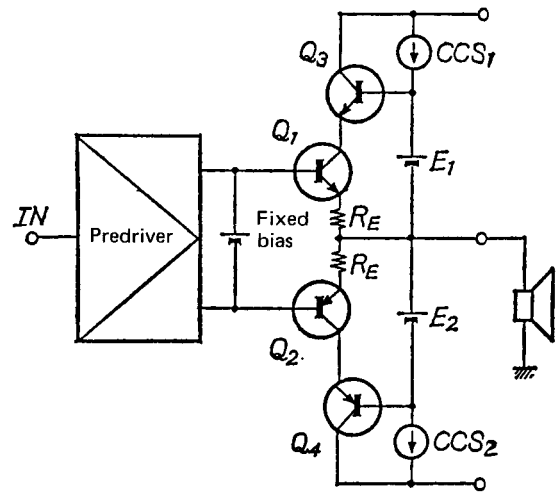

Fig. 5 Cascode circuit using feedback bootstrap
- (2) Feedback bootstrap cascode circuit
Fig. 5 shows a feedback bootstrap cascode circuit which is not confined to a power stage but is generally used in small signal circuits. In a small signal circuit, a sufficient performance can be obtained. However, in a power stage, some problems are present. Namely, the voltage drop due to  $R_E$  results in change of  $V_{CE}$  in  $Q_1$  and  $Q_2$ . Further, as the control voltages of  $Q_3$  and  $Q_4$  are extracted from the emitters of  $Q_1$  and  $Q_2$ , the phase delay between base and emitter in  $Q_1$  and  $Q_2$  is noticeable in cases of power transistors (this is negligible in small signal transistors), resulting in degraded high-frequency response. When the control voltages of  $Q_3$  and  $Q_4$  are extracted from the bases of  $Q_1$  and  $Q_2$ ,  $V_{CE}$  in the fixed bias class B (AB) operation lowers during half cycle of cut-off frequency so that oscillation occurs.